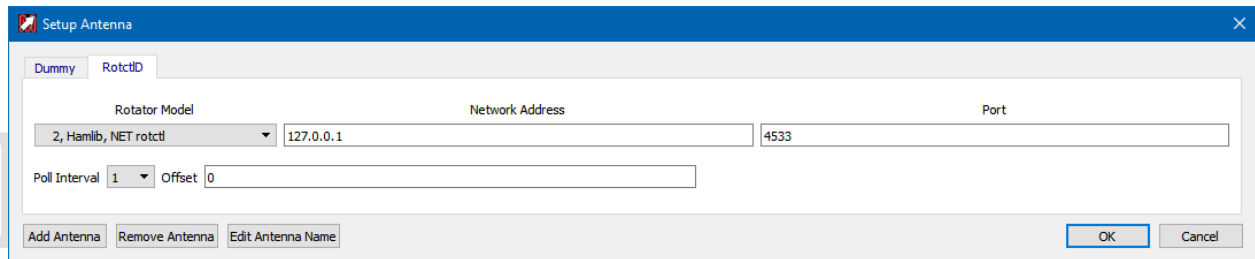

Figure 94 – Defining rotctld connection to Rotator
**Rotator sharing** is only done via manually configuring rotctld (Figure 94) and has not been tested. Volunteers wanted!